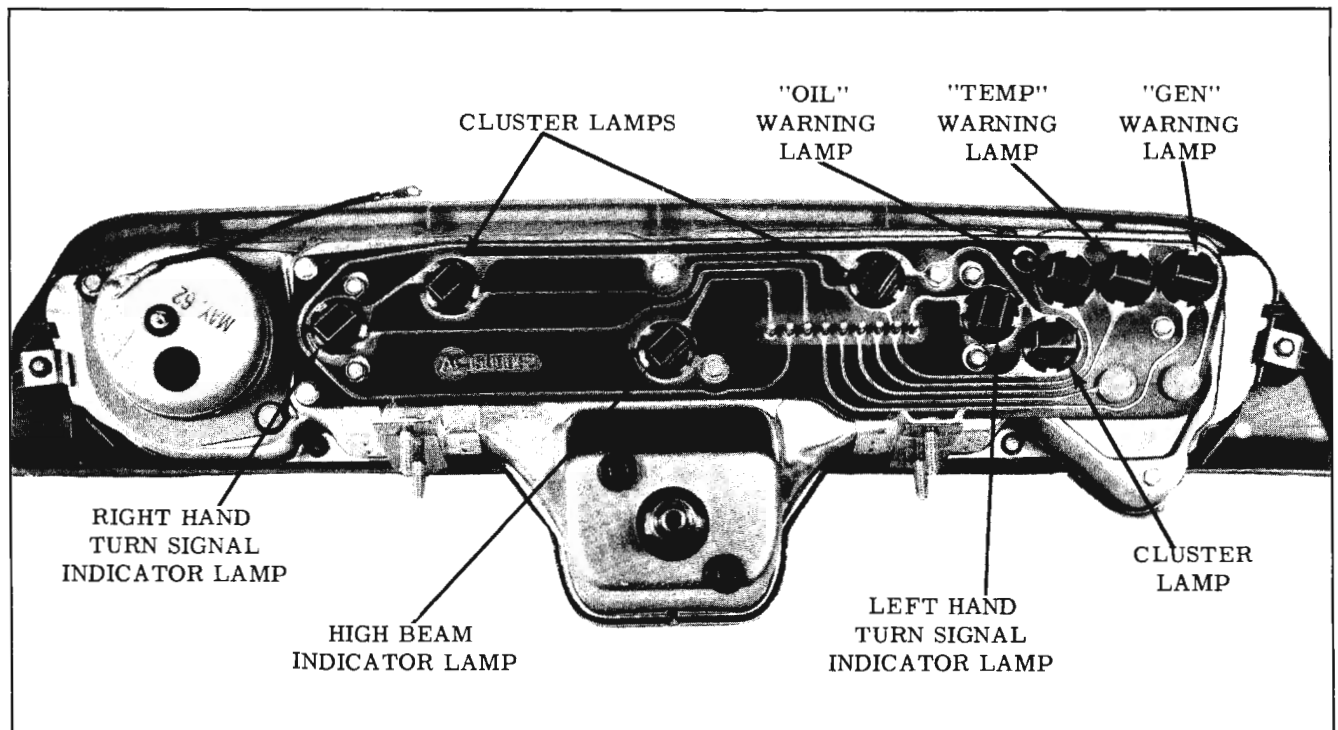

Fig. 14-144 Instrument Panel Lamps
2. The instrument panel lamps, except the clock and heater control lamp, are mounted on a printed circuit panel. Fig. 14-144 identifies the position of the indicator lamps and the cluster lighting lamps. These lamps may be removed by turning the socket counterclockwise (looking at the back of the instrument cluster), to disengage the locking lugs. The electric clock lamp socket and the heater control lamp socket are the push-in type lamp sockets and they can be removed by pulling straight out from the back of the instrument panel.